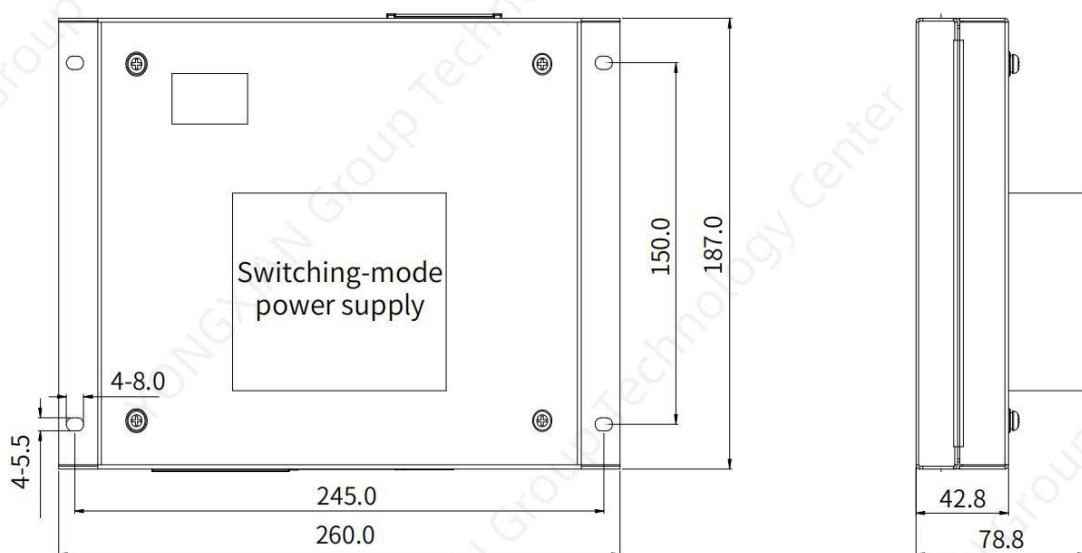

Figure 2-1 Dimensions of the MCTC-PES-E1 system (Unit: mm)
- 1) Process the installation side in the main control cabinet. For the processing dimensions, refer to Figure 2-1.
- ◆ The screws for fixing the protective guard are not delivered together with the MCTC-PES-E1 and you need to prepare them yourself. When selecting screws, consider the plate thickness of the installation side, the thickness of the protective guard and the dimension of the hole in Figure 2-1.